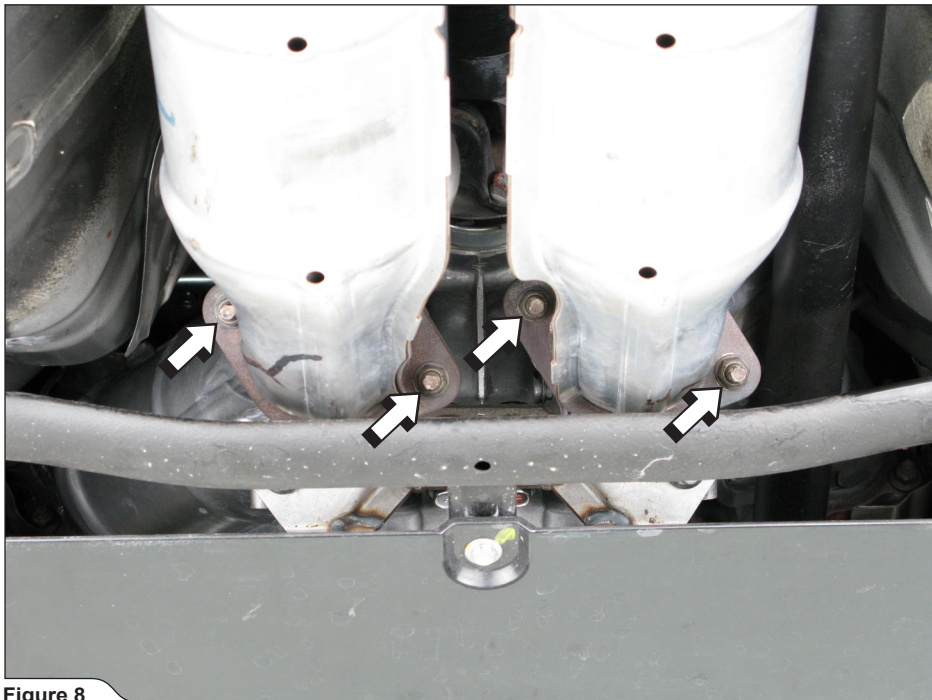

Figure 8
6. **For Evolution only:** unscrew the marked nuts and remove the front stock tubes off the vehicle (Figure 8).